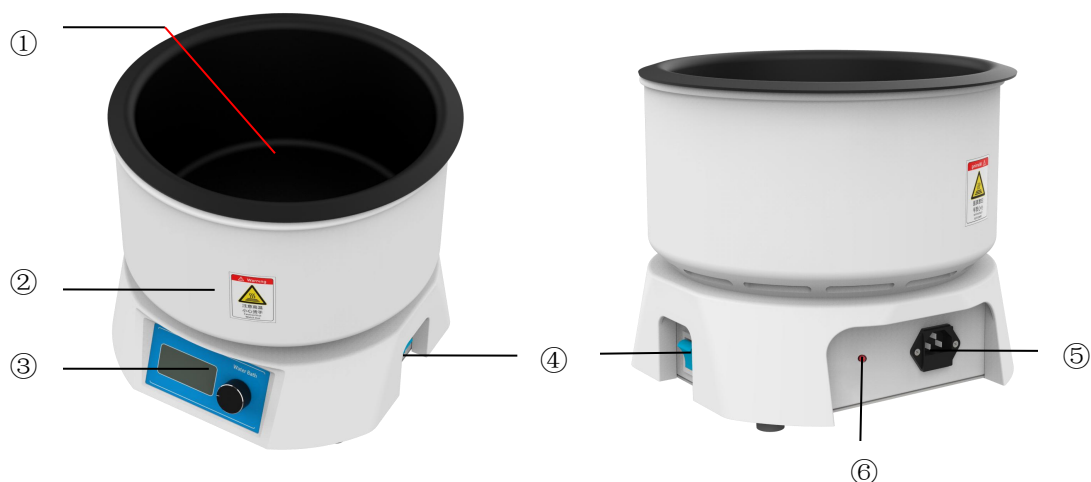

Figure 5
| (5) Rotary flask                        | (6) Water bath (Figure 5)         |